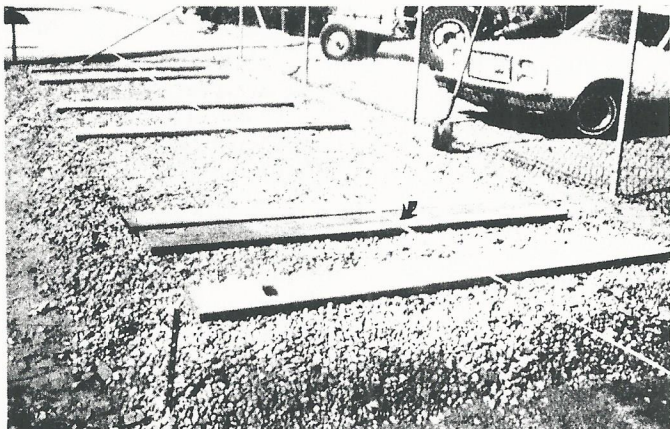

Figure 3 — Position of front crossmember on foundation perpendicular to centerline.
2. Draw line perpendicular to centerline marking distance from polished rod to front crossmember on base of unit (Fig. 3). See Table 1 for dimensions, center of well to front of unit.